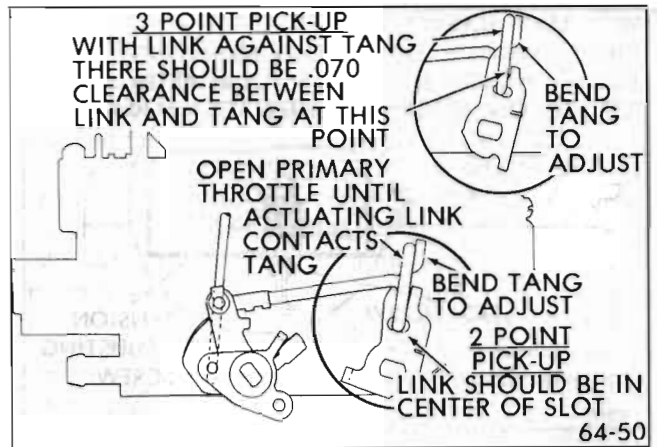

Figure 64-50 - Secondary Opening Adjustment
- (a) *With 2 point pick-up linkage*, bottom of link should be in center of secondary lever slot. See lower part of Figure 64-50.
- (b) *With 3 point pick-up linkage*, clearance between link and middle tang should be .070 inch. See upper part of Figure 64-50.